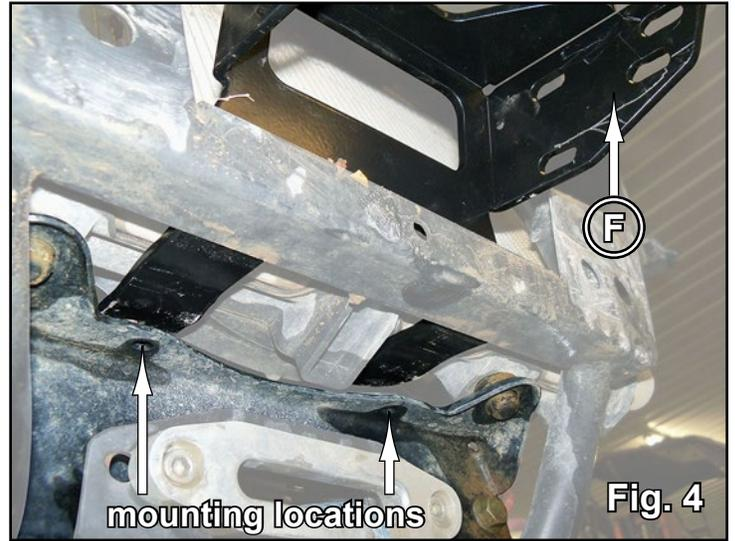

Fig. 4
5. Locate (2) mounting holes shown in Fig. 4. and install Rear Bracket (F) to machine with M8-1.25 x 25mm Lg. HHCS (P), M8 Flat Washers (H), and M8-1.25 Nylock Nuts (L). See Figs. 4 - 4a.